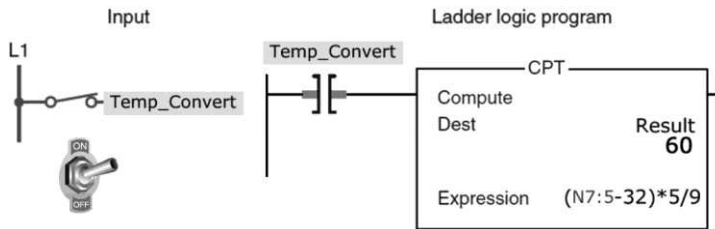

Figure 11-33 Compute program for assignment 13.
13) The Compute (CPT) program, shown in Figure 11-33, is used to convert Fahrenheit temperature readings to Celsius. Its operation is described in the text. Prepare an I/O connection diagram and ladder logic program that will simulate its operation. Use addresses that apply to your PLC installation. Enter the program into the PLC, and verify its operation by entering different values in the Expression for the Fahrenheit temperature.